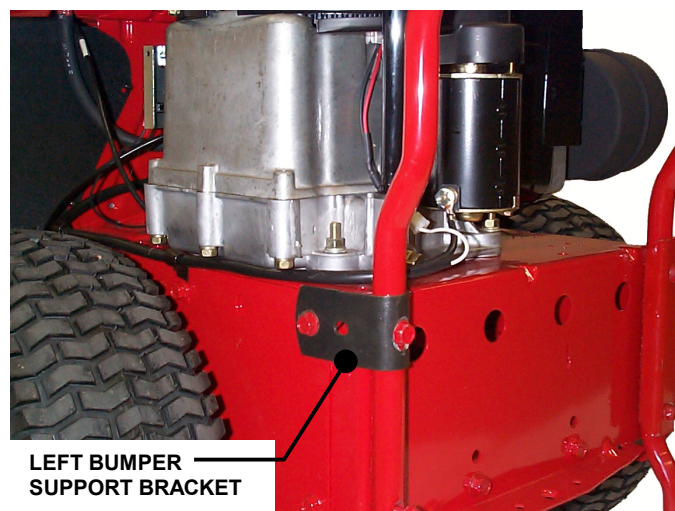

FIGURE 1.3
- B. Remove top left bolt from bumper and the left frame bolt located at the top rear of the main frame. See Figure 1.3. Align holes in left bumper support bracket, bumper and frame. Reinstall same bolts. Tighten the Bumper bolts before tightening the frame bolt.